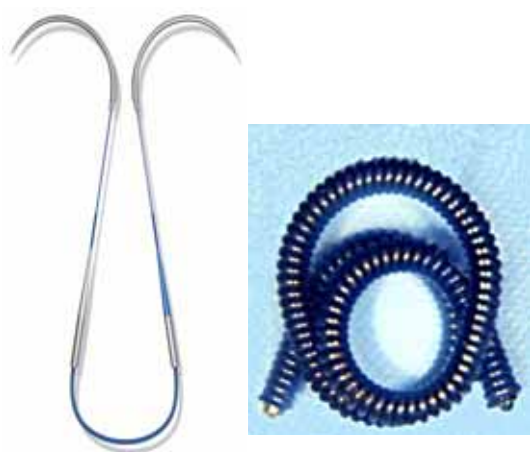

Figure 29: V100 U-Clip before and after release
- Working with Medtronic V100 U-Clip™ [Figure 29 & 30]